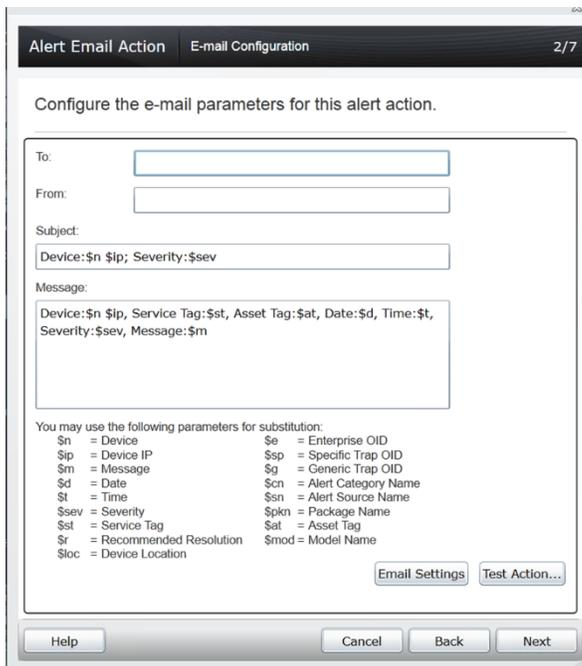

Figure 6 Email Configuration
3. Customize the Subject and Message of the email based on your preference. See Figure 6.
The various parameters that can be used in the Subject and Message fields are shown in Figure 6. For example, use \$m to include the text displayed in the Description field.